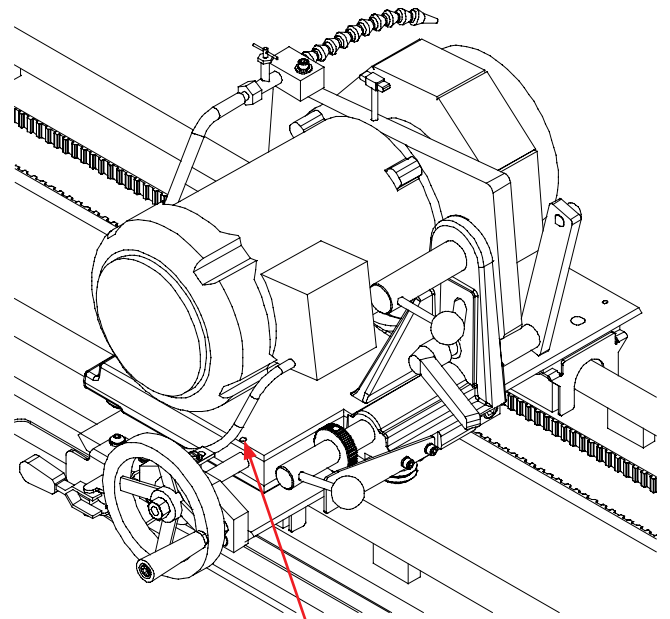

FIG. 20
If there is backlash in the Grinder Head Infeed handwheel (FIG. 20), there are two adjustment points on each to check:
2. Check the nylon ball tension on the adjustment shaft threads at the grinding head slide. See FIG. 20. When you turn the handwheel there should be no free play in the handwheel before the grinding head slide moves. If there is free play, tighten the setscrew that pushes the nylon ball against the acme thread of the adjustment shaft. The nylon ball preloads the free play out of the threaded joint between the adjustment shaft and the tooling bar slide block. Apply tension only enough to zero the free play. DO NOT over tension as the adjuster will be difficult to turn.